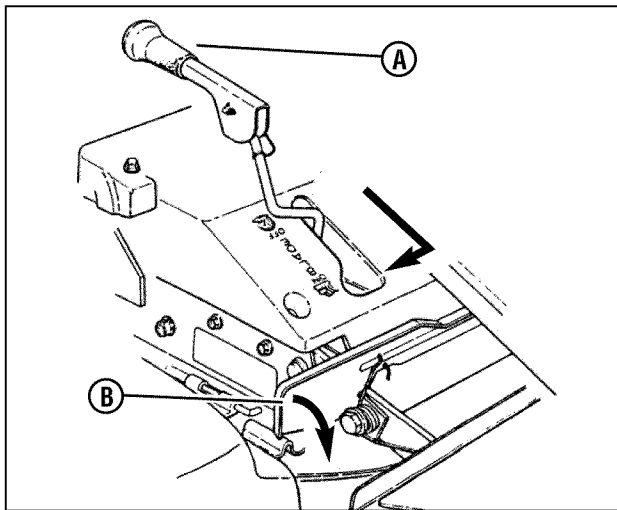

Figure 10: Engaging the mower blade
2. Move the blade lever (A, Figure 10) forward to the "ON" position, then depress the blade pedals (B) to hold the blade lever in the "ON" position.